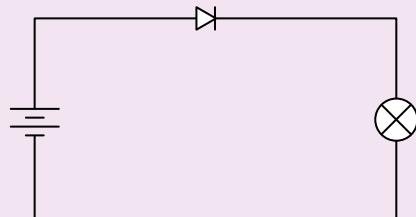

Figure 5.6 Circuit A
1. Connect the diode in forward biased as shown in Figure 5.6, that is, the positive terminal of the dry cell is connected to the anode and the negative terminal to the cathode.